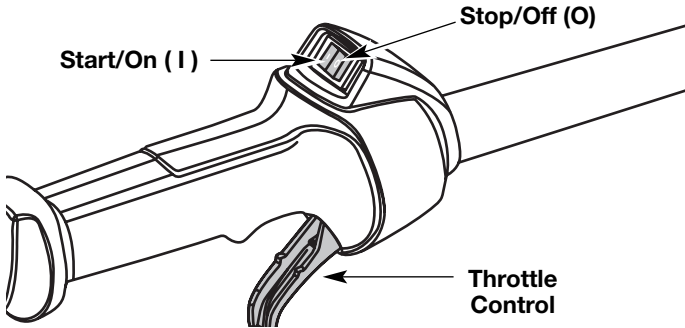

Fig. 8
NOTE: There is no need to turn the unit on. The On/Off Stop Control is in the ON (I) position at all times (Fig. 8).
2. Press the On/Off Stop Control in the OFF (O) position and hold until the unit completely stops running. (Fig. 8)